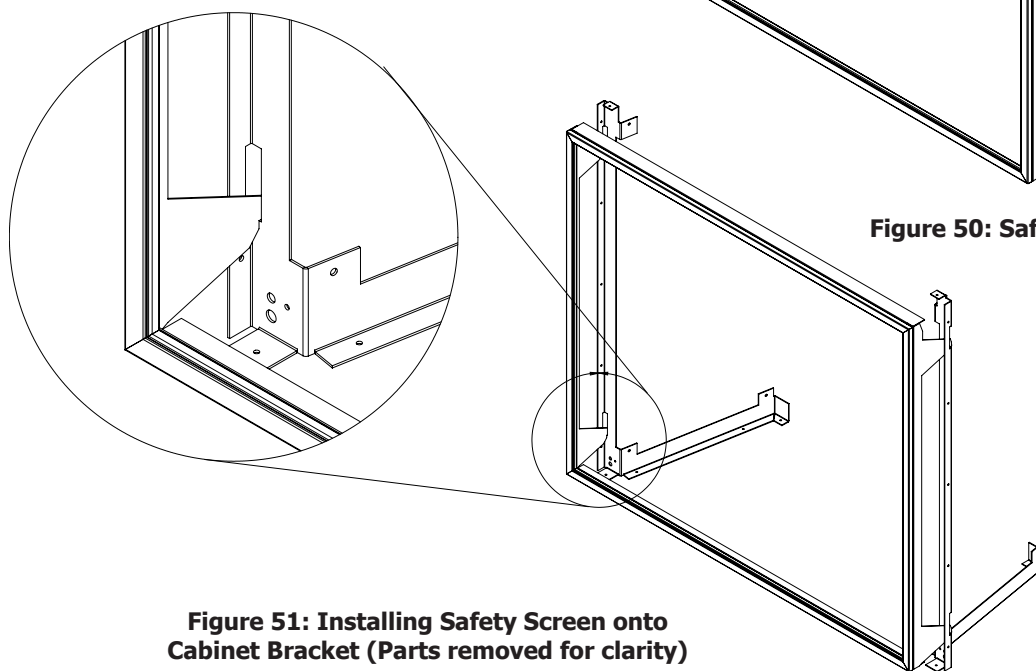

Figure 51: Installing Safety Screen onto Cabinet Bracket (Parts removed for clarity)
1. Lift the face upright in front of the fireplace with the four (4) hooks pointing towards the fireplace. Slide the hooks into the corresponding brackets on each side of the cabinet (see Figure 51). Ensure the hooks are secure before releasing the safety screen.